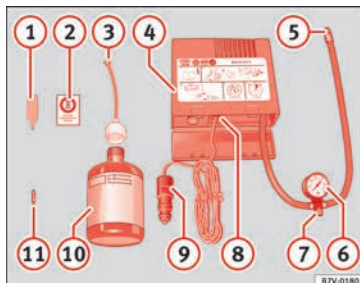

Fig. 97 Standard representation: Contents of the tyre mobility system.
» **Fig. 97:**
Screw the inflator tube » **Fig. 97** ⑤ again and check the pressure on the gauge ⑥.